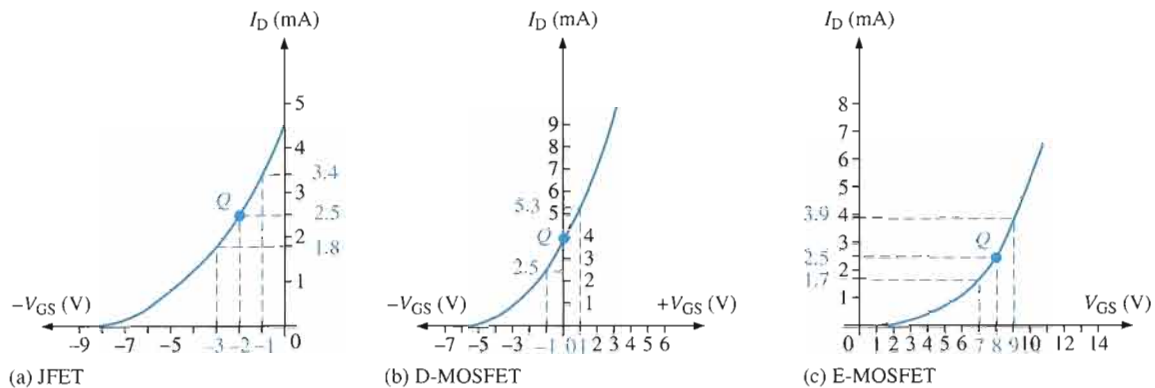

FIGURE 8-18
Transfer characteristic curves for a particular n -channel JFET, D-MOSFET, and E-MOSFET are shown in Figure 8-18. Determine the peak-to-peak variation in I_D when V_{GS} is varied ± 1 V about its Q-point value for each curve.
- (a) The JFET Q-point is at $V_{GS} = -2$ V and $I_D = 2.5$ mA. From the graph in Figure 8-18(a), $I_D = 3.4$ mA when $V_{GS} = -1$ V, and $I_D = 1.8$ mA when $V_{GS} = -3$ V. The peak-to-peak drain current is therefore **1.6 mA**.
- (b) The D-MOSFET Q-point is at $V_{GS} = 0$ V and $I_D = I_{DSS} = 4$ mA. From the graph in Figure 8-18(b), $I_D = 2.5$ mA when $V_{GS} = -1$ V, and $I_D = 5.3$ mA when $V_{GS} = +1$ V. The peak-to-peak drain current is therefore **2.8 mA**.
- (c) The E-MOSFET Q-point is at $V_{GS} = +8$ V and $I_D = 2.5$ mA. From the graph in Figure 8-18(c), $I_D = 3.9$ mA when $V_{GS} = +9$ V, and $I_D = 1.7$ mA when $V_{GS} = +7$ V. The peak-to-peak drain current is therefore **2.2 mA**.
Related Problem As the Q-point is moved toward the bottom end of the curves in Figure 8-18, does the variation in I_D increase or decrease for the same ± 1 V variation in V_{GS} ? In addition to the change in the amount that I_D varies, what else will happen?